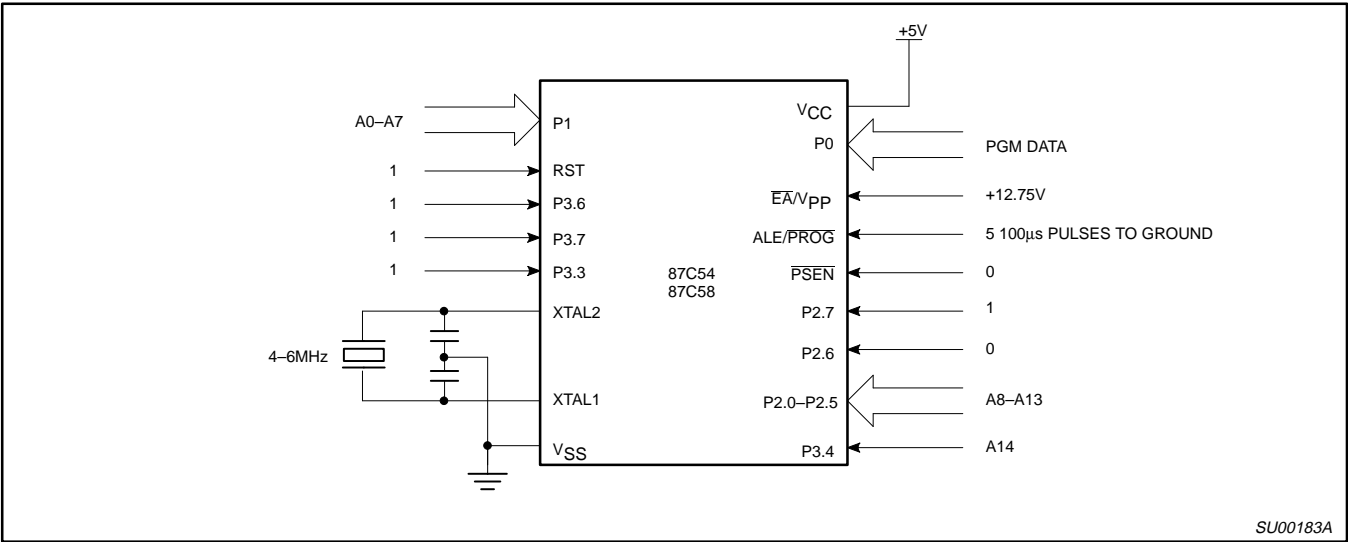
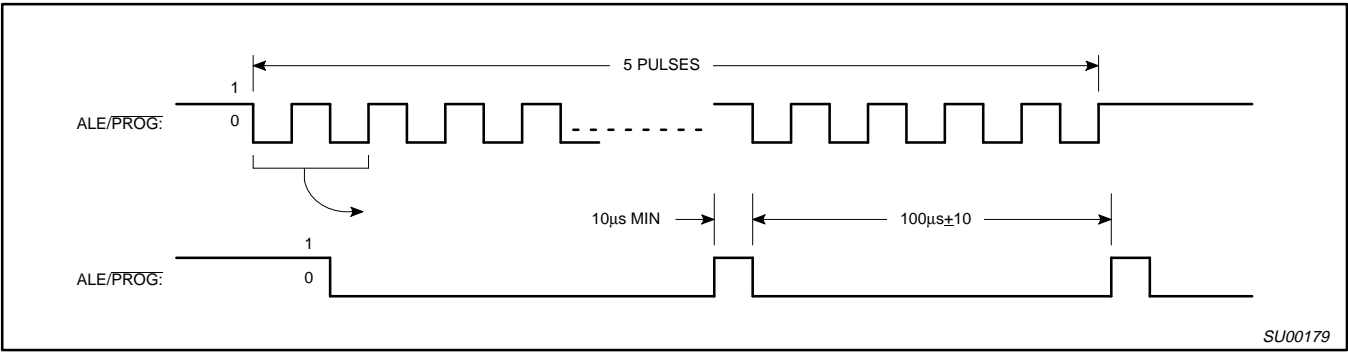
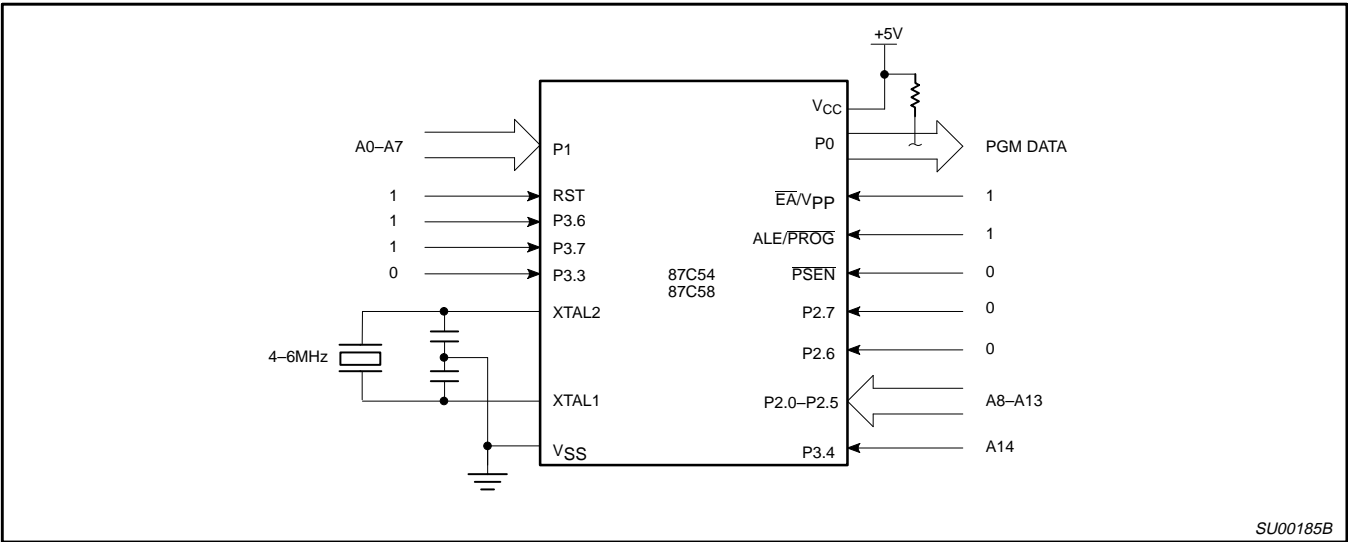

Figure 16. Programming Configuration
Figure 17. PROG Waveform
Figure 18. Program Verification
Table 4 shows the logic levels for reading the signature byte, and for programming the program memory, the encryption table, and the security bits. The circuit configuration and waveforms for quick-pulse programming are shown in Figures 16 and 17. Figure 18 shows the circuit configuration for normal program memory verification.
The setup for microcontroller quick-pulse programming is shown in Figure 16. Note that the 87C58 is running with a 4 to 6MHz oscillator. The reason the oscillator needs to be running is that the device is executing internal address and program data transfers.
The address of the EPROM location to be programmed is applied to ports 1 and 2, as shown in Figure 16. The code byte to be programmed into that location is applied to port 0. RST, \overline{PSEN} and pins of ports 2 and 3 specified in Table 4 are held at the 'Program Code Data' levels indicated in Table 4. The ALE/PROG is pulsed low 5 times as shown in Figure 17.
shown in Figure 18. The other pins are held at the 'Verify Code Data' levels indicated in Table 4. The contents of the address location will be emitted on port 0. External pull-ups are required on port 0 for this operation.
* FOR PROGRAMMING VERIFICATION SEE FIGURE 16.
FOR VERIFICATION CONDITIONS SEE FIGURE 18.